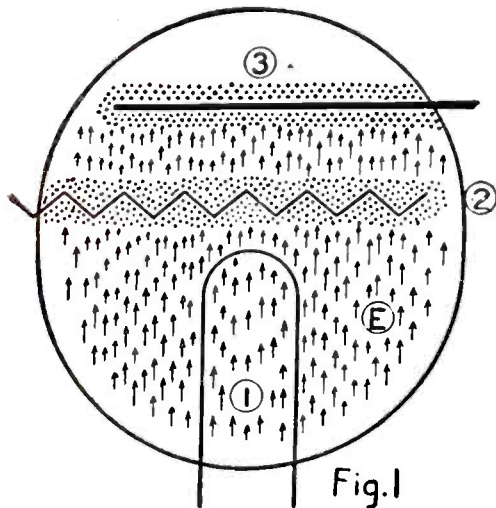
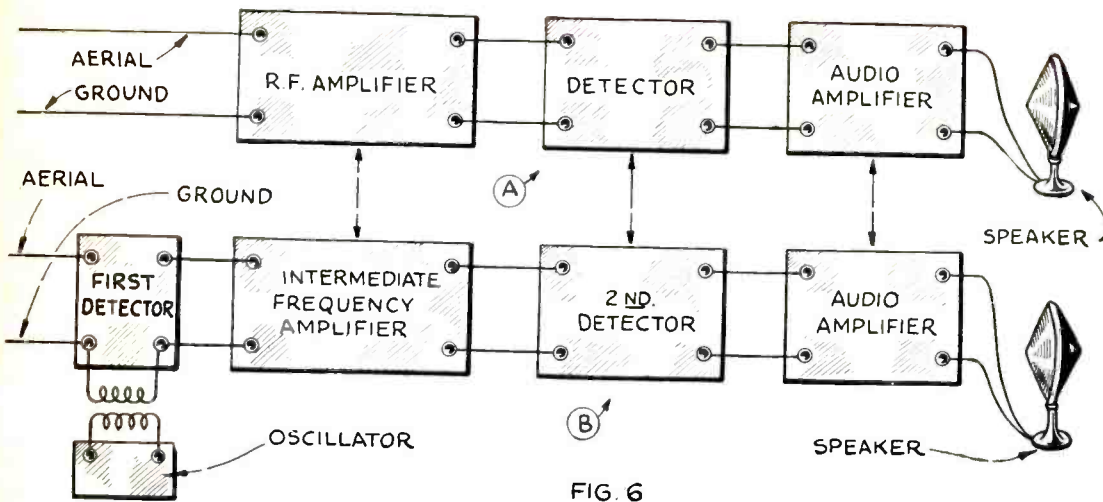

Fig. 1
FIG. 6
Fig. 2—A "celestial" vacuum tube, in which the sun gives off the electronic stream in the direction of the arrows. The various planets may be taken respectively as plates and grids in a multi-element tube; while the atmospheres of the planets are analogous to the gas adhering to the plate and grid, as shown in Fig. 1.
Fig. 1 shows the interior of a vacuum tube where (1) is the filament, E is the stream of electrons going in the direction of the arrows, (2) is the grid, (3) is the plate. The small dots surrounding the grid and plate indicate a layer of gas always adhering to metals, a miniature Heaviside layer, which the electrons must pierce.
The units comprising a superheterodyne receiver are shown in Fig. 1, while in Fig. 2 the essential connections of an ordinary adapter are shown. The tube used as detector in the latter will depend upon the tube used in the detector socket of the broadcast receiver. A.C. tubes can be used if desired, the fundamental connections remaining the same. In the detector circuit shown the regeneration is controlled by means of a variable bypass condenser. Some arrangements use resistance control of regeneration; both schemes have their advantages and disadvantages. Unless a variable resistor of high quality is available, the condenser scheme of control is ordinarily to be preferred.
In Fig. 6 an ordinary broadcast receiving set is indicated at A. When the frequency-changer is put ahead of it, the R.F. amplifier becomes the intermediate-frequency amplifier of the short-wave superheterodyne, as indicated at B. The detector unit of the broadcast set then becomes the second detector and the audio amplifier of course remains the same. Compare this arrangement with Fig. 1.